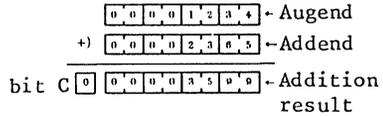

Fig. 3 Addition example when upper byte is not used
**(2) User Notes**
- (a) As shown in Fig. 3, when not using upper byte, the upper byte should be held to "0", otherwise addition result will not be correct, because addition is performed with undefined data in the upper byte.
**(3) RAM Description**